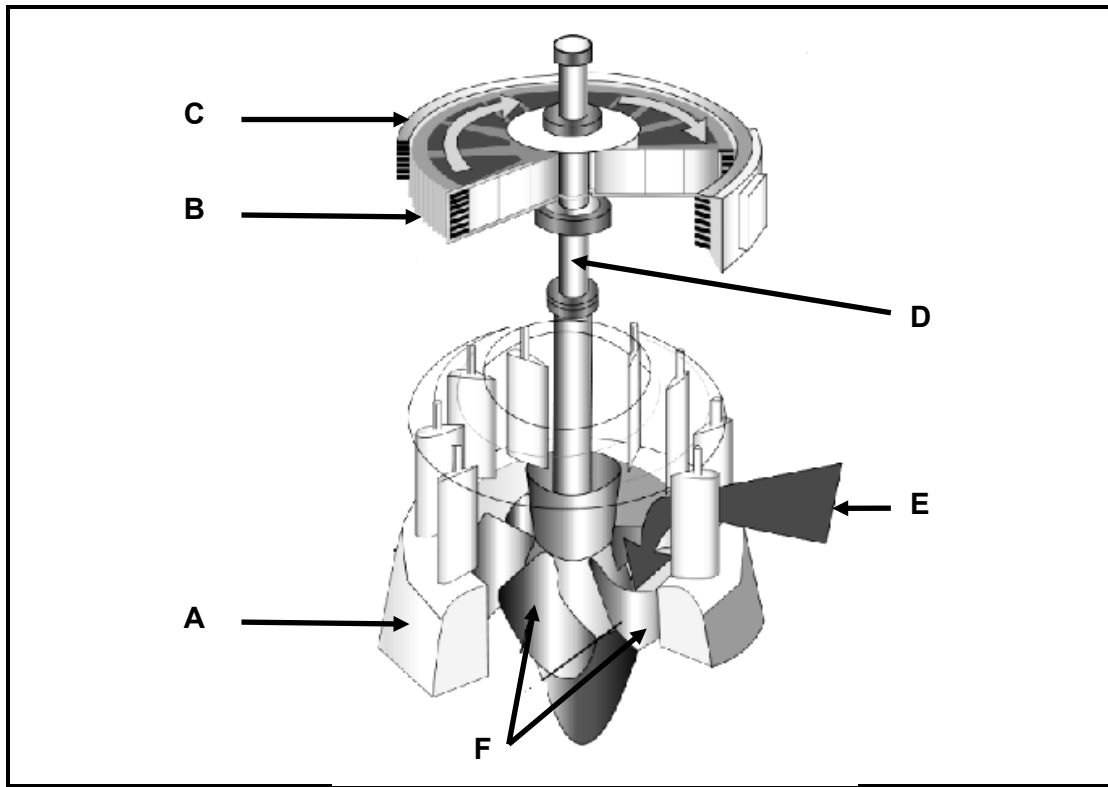

FIGURE 10.1
10.3 FIGURE 10.1 below shows a water turbine driving a generator. Answer the questions that follow.
10.3.1 Identify the type of turbine shown in FIGURE 10.1. (1)
10.3.3 State **THREE** advantages of the turbine in FIGURE 10.1 above (3)